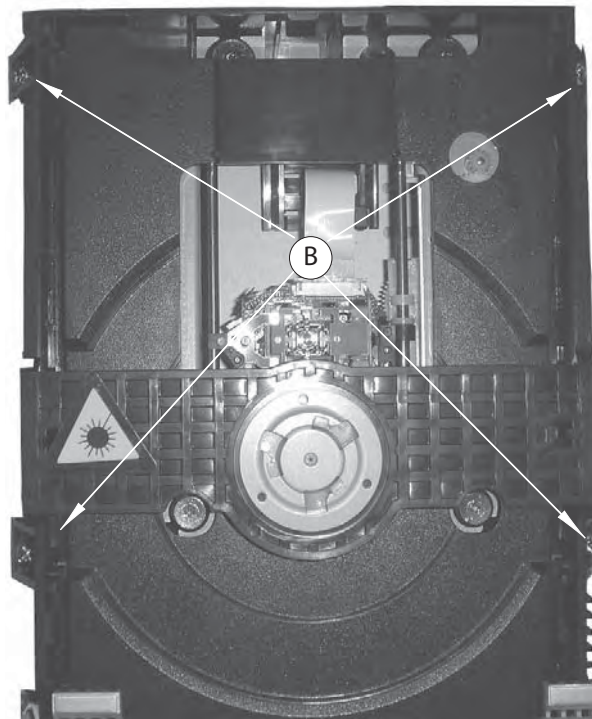

Figure 6
- 1) Loosen 4 screws "B" to remove the DVD Module as shown in figure 6.